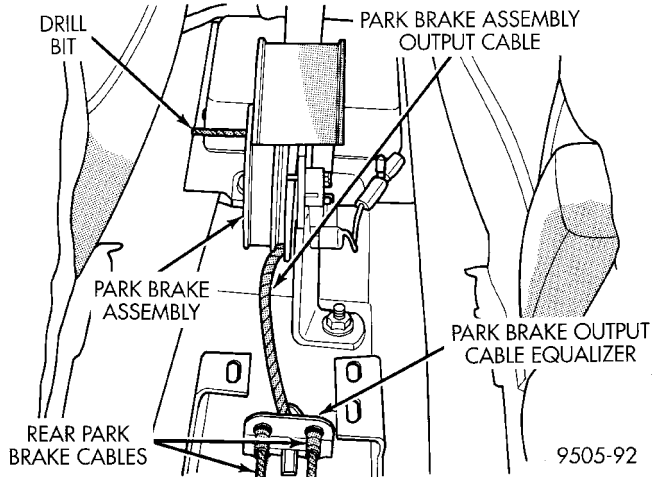
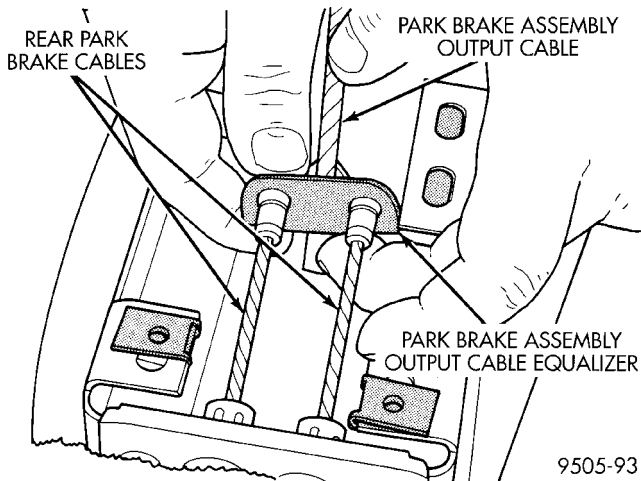
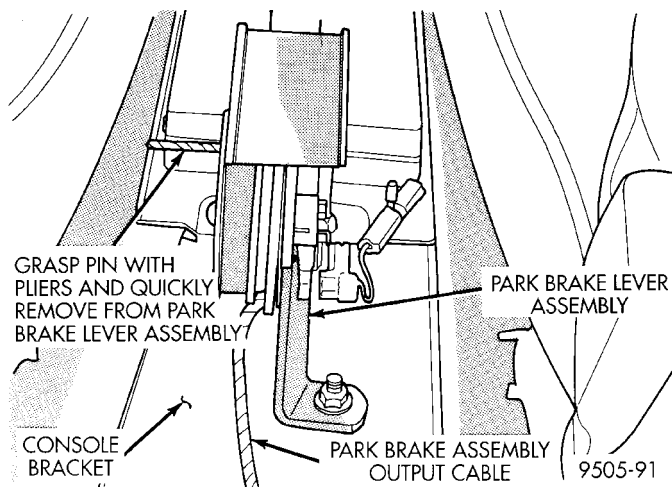

Fig. 14 Park Brake Cables Properly Installed In Equalizer
Fig. 15 Rear Park Brake Cable Installation On Equalizer
Fig. 16 Removing Lockout Pin From Park Brake Lever Assembly
(3) Place park brake lever on console bracket. Install and securely tighten the 2 attaching nuts.
(4) Install both rear park brake cables into equalizer on park brake lever output cable (Fig. 14) and (Fig. 15).
(5) Ensure that park brake cable is correctly installed and aligned with cable track on park brake lever.
(6) Pull park brake lever handle all the way up.
(7) Firmly grasp park brake lever locking pin and quickly remove it from the park brake lever mechanism (Fig. 16) This will allow the park brake lever mechanism to correctly adjust the park brake cables.